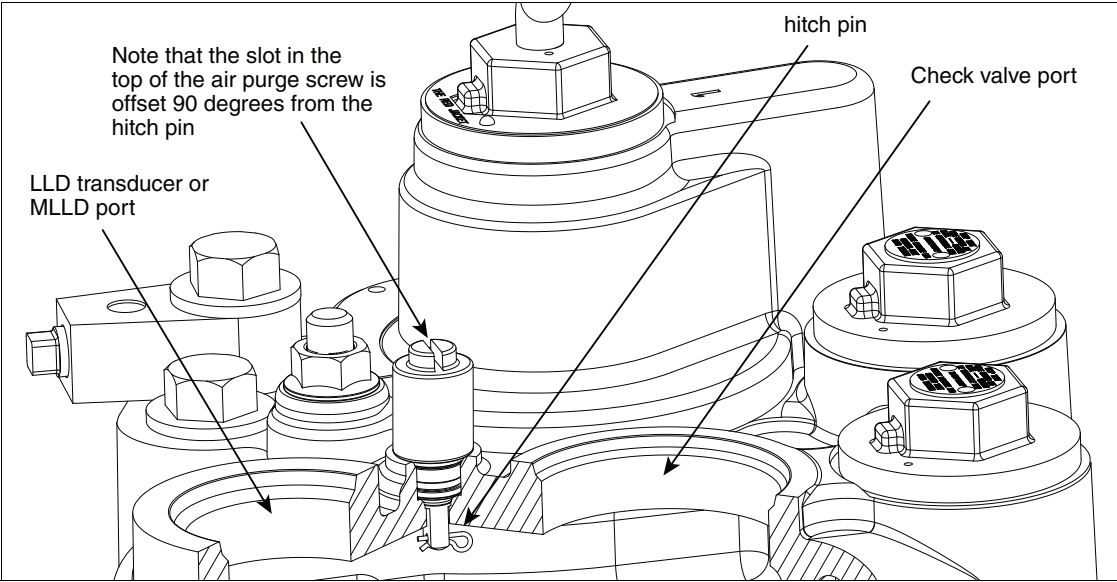

Figure 38. Locating Air Purge Screw Hitch Pin
6. The air purge screw has a hitch pin that is set in the horizontal position to limit travel of the screw (see Figure 38).